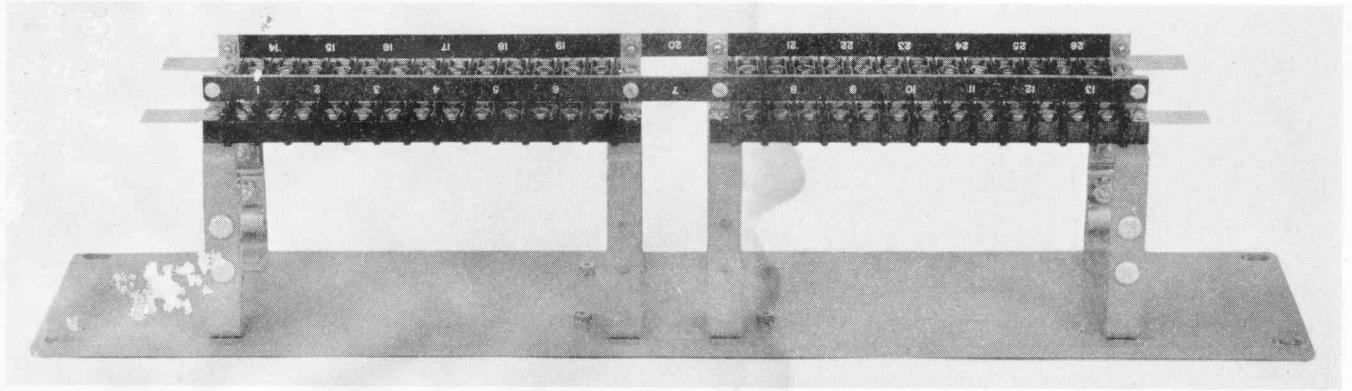

Figure 1-13. Terminal Board Assembly AN Type J-242/G, Rear View.
(9) TERMINAL BOARD ASSEMBLY AN TYPE J-242/G (*Figure 1-13*).—Terminal Board Assembly